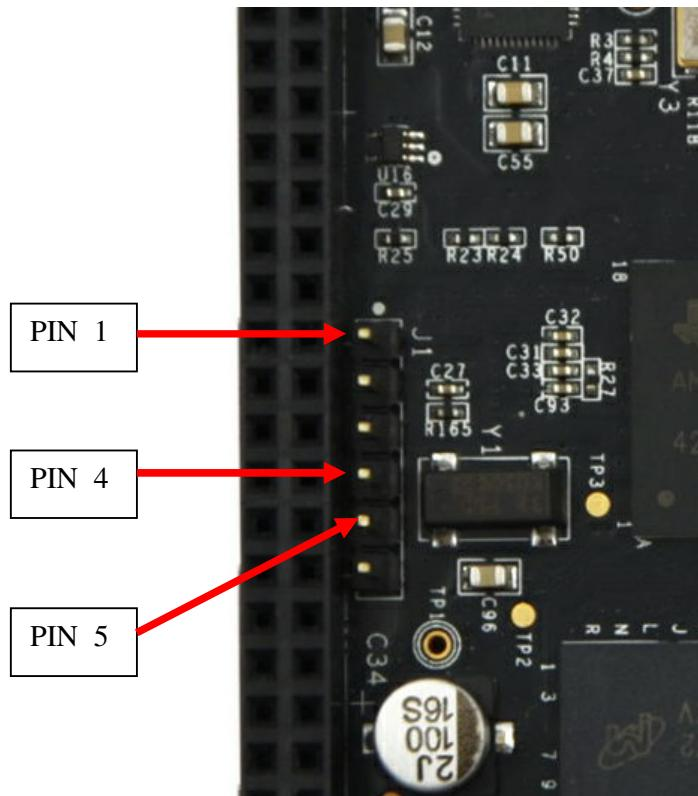

Figure 56 Serial connector
**Figure 56** shows the pin location on the board.